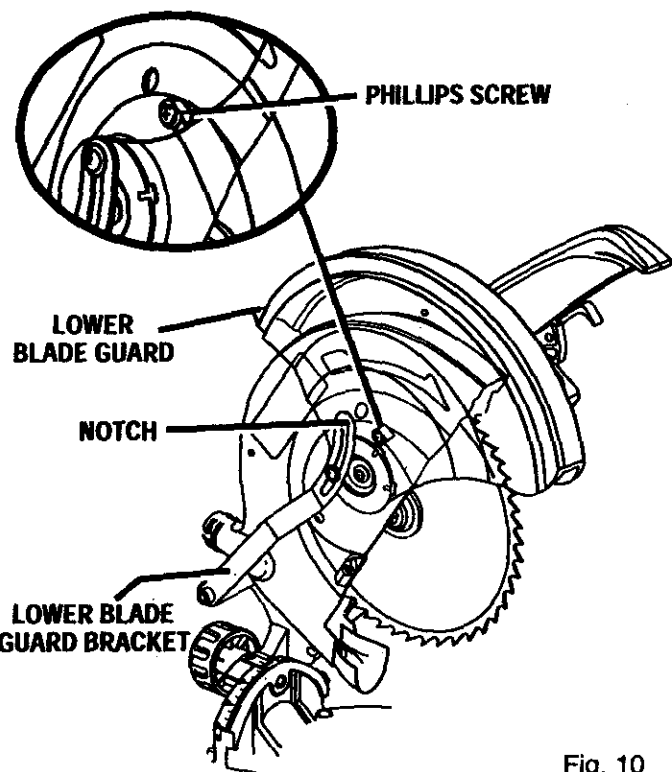

Fig. 10
See Figures 10, 11, and 12.
■ Loosen the phillips screw on the blade bolt cover until blade bolt cover can be raised. See Figures 10 and 11.
■ Gently raise the lower blade guard bracket, releasing lower blade guard from notch so that lower blade guard and blade bolt cover can be rotated up and back to expose the blade bolt. See Figures 10 and 11.